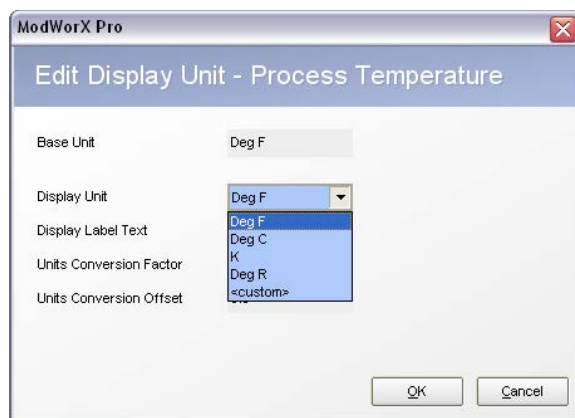

Figure 6.12
- a. Click **Edit**. The Edit Display Unit dialog will appear (Figure 6.12, page 77). The base unit is the unit in which the Scanner measures process temperature from the sensor.